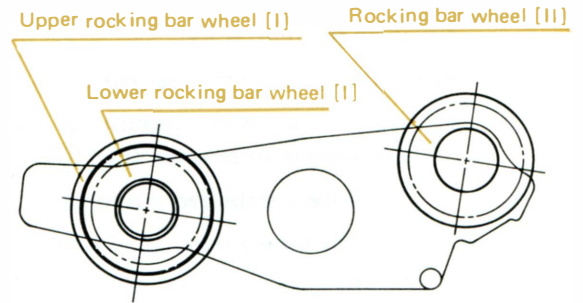

Fig. 7
The lower rocking bar wheel (I) meshes with the ratchet wheel and makes the reduction ratio of ratchet wheel and the crown rotation large. Hand winding, regardless of a powered up mainspring, does not differ from ordinary ones. (Figs. 7 and 8)